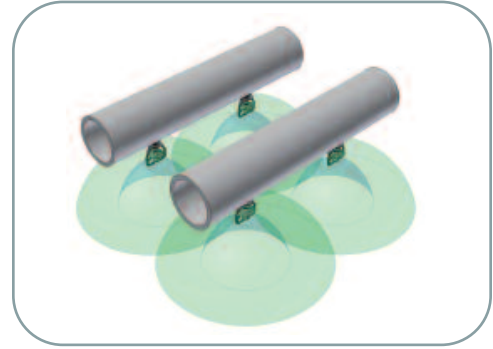

Figure 9 - Nozzle Spray Pattern
- Check to see if the nozzles are all spraying consistently and producing the spray pattern in Figure 9.